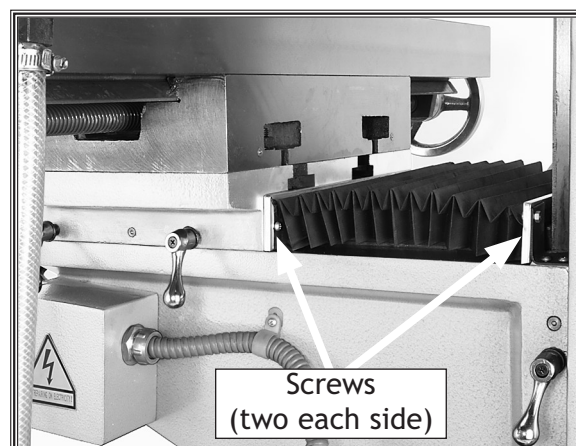

Figure 11. Way cover mounted correctly on the machine.
1. Remove the four screws from the machine at the way cover mounting location (**Figure 11**).